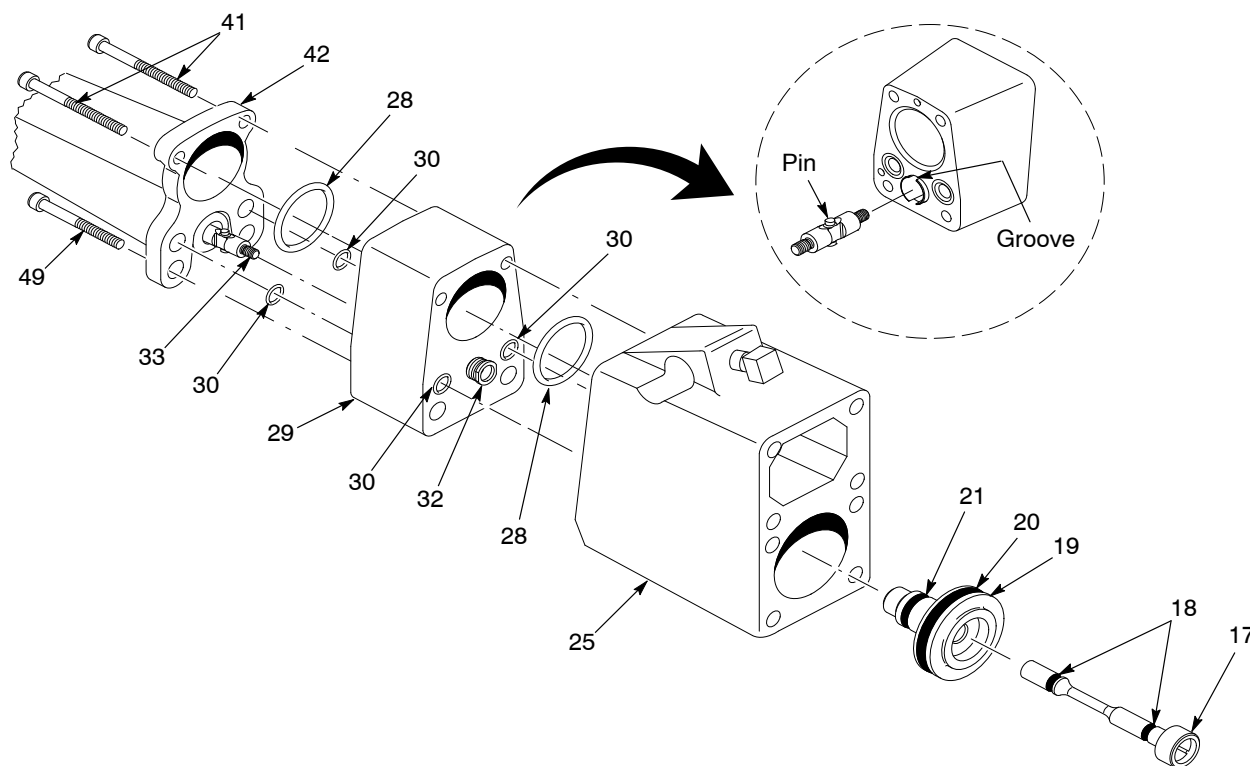

Figure 7-4 Air Piston and Connecting Rod Replacement
1. See Figure 7-4. Insert a flat-blade screwdriver into the end of the spray gun body to loosen the connecting rod (17) from the packing cartridge. The connecting rod will remain in the piston block body (25).
2. Remove the four socket-head screws (41 and 49) with a $\frac{5}{32}$ -in. hex wrench to remove the extension (42) and spacer block (29).
1. See Figure 7-4. Using the $\frac{5}{32}$ -in. hex wrench, push the connecting rod (17) out of the piston block body. Replace worn or damaged connecting rod O-rings (18).
2. Push the air piston (19) out of the piston block body. Inspect the air piston and replace if necessary. Generously lubricate the inside bore of the piston body with MagnaLube G or an equivalent PTFE-based lubricant.
3. Inspect the O-rings (20, 21) on the air piston and replace if necessary. Generously lubricate the O-rings and install the air piston in the piston block body (25).
4. Lubricate the O-rings (18) on the connecting rod with MagnaLube G or an equivalent PTFE-based lubricant and push it through the air piston.
1. See Figure 7-4. Make sure the four face-seal O-rings (30) are correctly installed. Lubricate the O-rings with O-ring grease.
2. Make sure the two large face-seal O-rings (28) are correctly installed. Apply dielectric grease to these O-rings.
3. Grasp the puller link (33) and pull until the ball tip is fully retracted.
1. See Figure 7-4. Insert the flat-blade screwdriver of the combination tool into the end of the piston block body to loosen the connecting rod (17) from the packing cartridge. The connecting rod will remain in the piston block body (25).